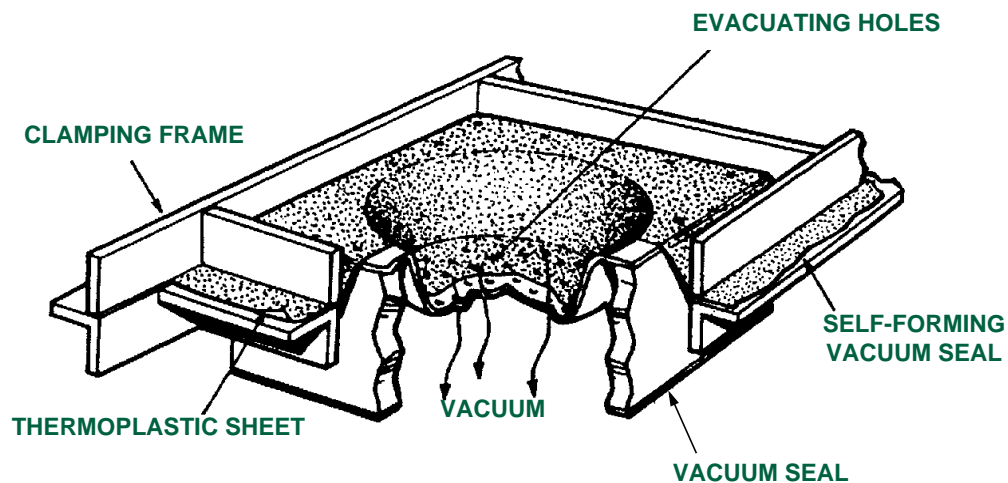
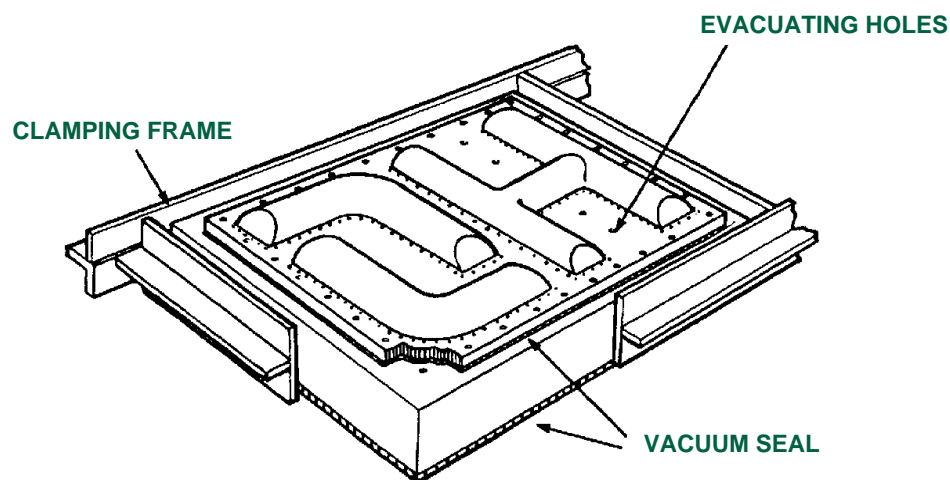
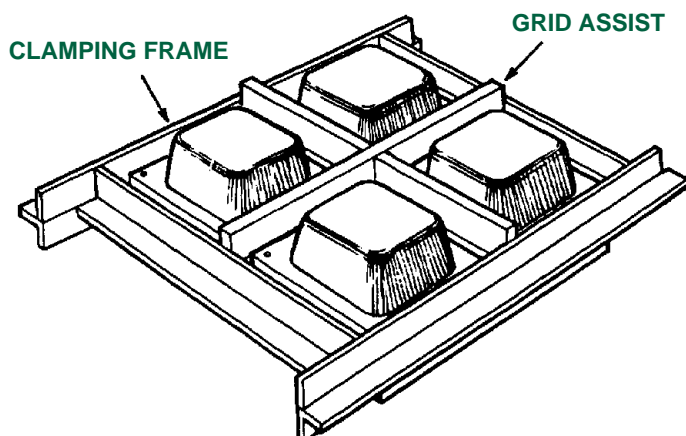

FIGURE 1 - VACUUM FORMING MOULD - CAVITY TYPE
FIGURE 2 - VACUUM FORMING MOULD - DRAPE TYPE
FIGURE 3 - MULTIPLE PART DRAPE FORM MOULD
| FIGURE 1 - VACUUM FORMING MOULD - CAVITY TYPE .....           | 8    |
| FIGURE 2 - VACUUM FORMING MOULD - DRAPE TYPE .....            | 8    |
| FIGURE 3 - MULTIPLE PART DRAPE FORM MOULD.....                | 9    |
- Step 3. Position and clamp the mould and preforming box or plug onto the designated platen as noted on the set-up card. Except where the clamping frame is an integral part of the mould or forming box, ensure that the working face of the mould base plate extends at least 3/4" beyond the gripping faces of the clamping frame when the platen is in the extended position (see Figure 1 and Figure 2). A ring or grid assist may be provided to improve definition of the parts on multiple drape moulds (see Figure 3).